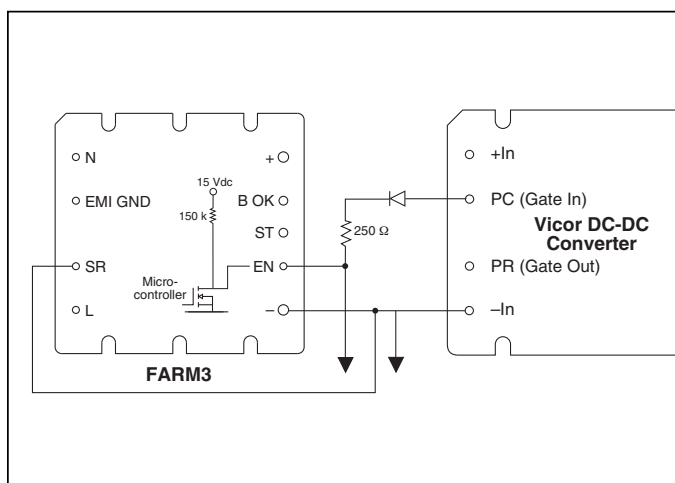

Figure 11 — Enable (EN) function
Enable (EN) Pin. The Enable pin must be connected to the PC or Gate-In pin of all converter modules to disable the converters during power-up. Otherwise, the converters would attempt to start while the hold-up capacitors are being charged through the current limiting thermistor, preventing the bus voltage from reaching the thermistor bypass threshold, thus disabling the power supply. The Enable output (the drain of an N channel MOSFET) is internally pulled up to 15 V through a 150 k Ω resistor. (see Figure 11)